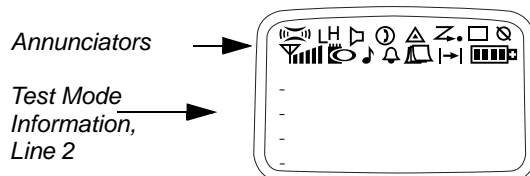

Figure 4-4: Four-Line Display (HT1550•XLS)
3. After "CSQ CHXX SP25" appears on the display, the radio is on channel XX (see **Note** on following page), carrier squelch mode, 25 kHz channel spacing. Each additional press of 'side button 2' (see Table 4-3 on page 4-5) scrolls to the next channel spacing, and a corresponding set of tones are sounded. Refer to Figure 4-4 on page 4-4 for test mode information for a four-line display radio.